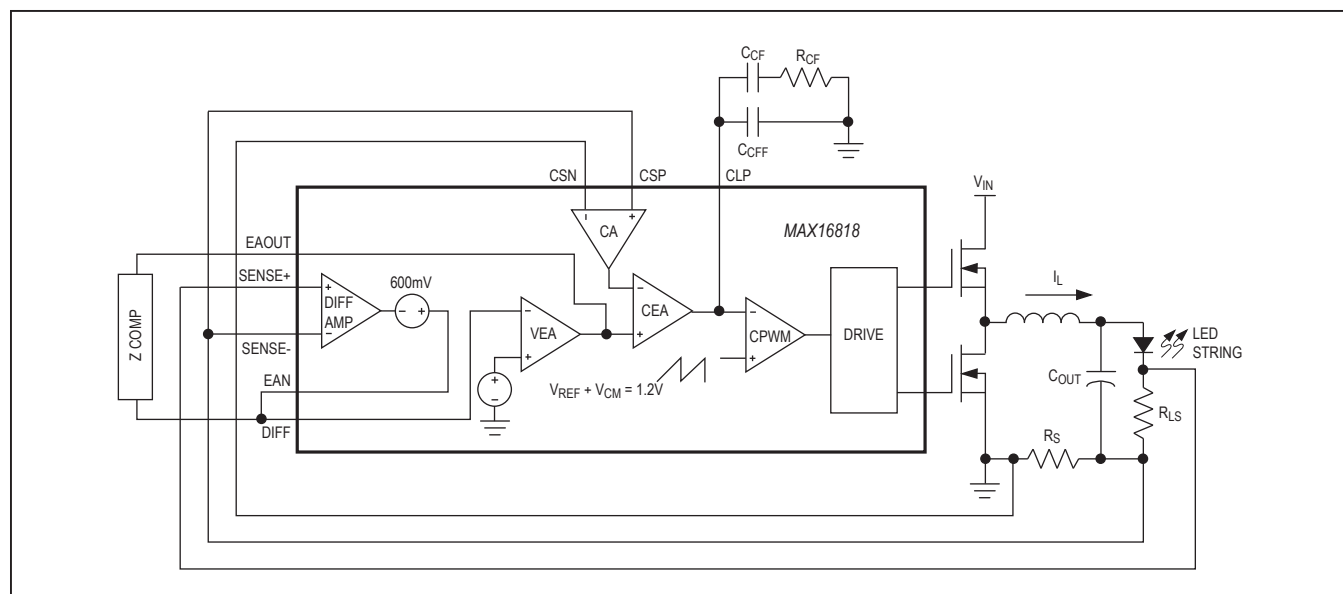

Figure 7. MAX16818 Control Loop
The MAX16818 uses an average-current-mode control scheme to regulate the output current (Figure 7). The main control loop consists of an inner current loop for controlling the inductor current and an outer current loop for regulating the LED current. The inner current loop absorbs the inductor pole reducing the order of the outer current loop to that of a single-pole system. The current loop consists of a current-sense resistor (R_S), a current-sense amplifier (CA), a current-error amplifier (CEA), an oscillator providing the carrier ramp, and a
PWM comparator (CPWM) (Figure 7). The precision CA amplifies the sense voltage across RS by a factor of 34.5. The inverting input to the CEA senses the CA output. The CEA output is the difference between the voltage-error amplifier output (EAOUT) and the amplified voltage from the CA. The RC compensation network connected to CLP provides external frequency compensation for the CEA. The start of every clock cycle enables the high-side drivers and initiates a PWM on-cycle. Comparator CPWM compares the output voltage from the CEA with a 0V to 2V ramp from the oscillator. The PWM on-cycle terminates when the ramp voltage exceeds the error voltage. Compensation for the outer LED current loop varies based upon the topology.
The MAX16818 has a transconductance current-error amplifier (CEA) with a typical g_m of 550 μ S and 320 μ A output sink- and source-current capability. The current-error amplifier output CLP serves as the inverting input to the PWM comparator. CLP is externally accessible to provide frequency compensation for the inner current loops (Figure 7). Compensate CEA so the inductor current negative slope, which becomes the positive slope to the inverting input of the PWM comparator, is less than the slope of the internally generated voltage ramp (see the *Compensation* section).
The DIFF AMP facilitates remote sensing at the load (Figure 7). It provides true differential LED current (through the R_{LS} sense resistor) sensing while rejecting the common-mode voltage errors due to high-current ground paths. The VEA provides the difference between the differential amplifier output (DIFF) and the desired LED current-sense voltage. The differential amplifier has a bandwidth of 3MHz. The difference between SENSE+ and SENSE- is regulated to 0.6V. Connect SENSE+ to the positive side of the LED current-sense resistor and SENSE- to the negative side of the LED current-sense resistor (which is often PGND).